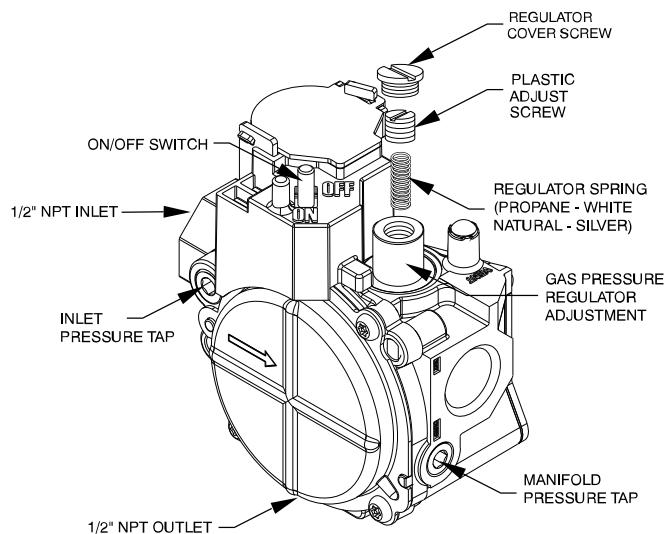

Fig. 4 – Single-Stage Gas Valve
17. Remove regulator cover screw from the gas regulator (see Fig. 4). Save regulator cover screw.
18. Using a screwdriver, remove the plastic regulator adjust screw from the gas regulator (see Fig. 4). Save plastic regulator adjust screw.
19. Remove regulator spring (silver) from the gas regulator (see Fig. 4). Discard regulator spring.
20. Install propane gas regulator spring (white) shipped with this kit. (See Fig. 4).
21. Install plastic adjust screw into the gas regulator, turn clockwise 13.5 turns (see Fig. 4).
31. Fire unit and verify proper ignition and proper sequence of operation (Table 2). See Table 8 for proper manifold pressure setting for your unit. Adjust the gas valve setting by turning the plastic adjustment screws clockwise to increase pressure and counter-clockwise to decrease pressure. Refer to Table 3 for required rated heating input rates. Replace regulator cover screws when finished (see Fig. 4).